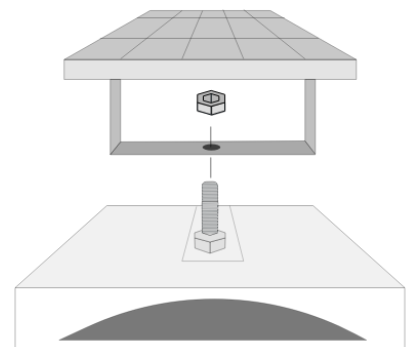

Figure 2
Step 2: Place the solar panel bracket into the bolt and tighten the screw (shown in Figure 2).